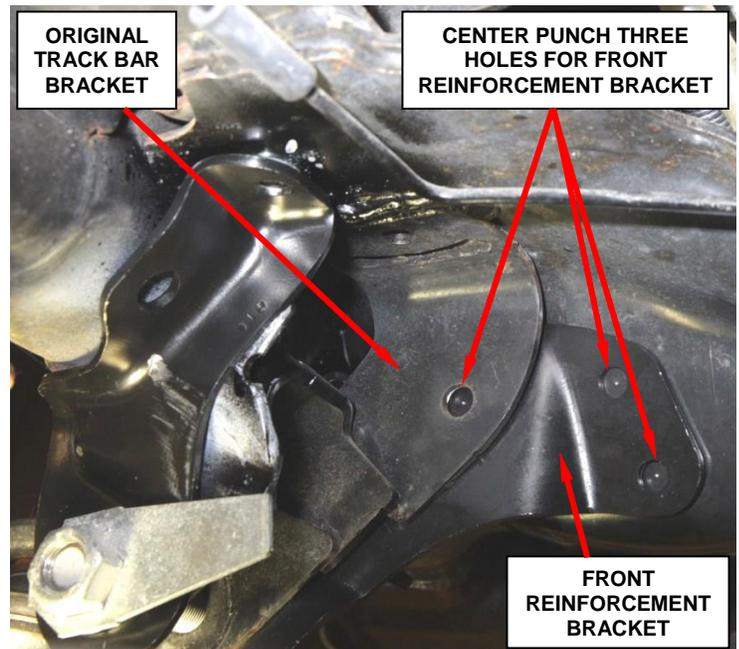

Figure 16 – Rear Reinforcement Bracket
22. Using the proper size transfer punch, center punch the remaining three holes (two on the frame and one on the front reinforcement bracket) for the front reinforcement bracket (Figure 16).
40. Using a small hammer, tap a riv-nut into each of the 17/32” holes (Figure 16).